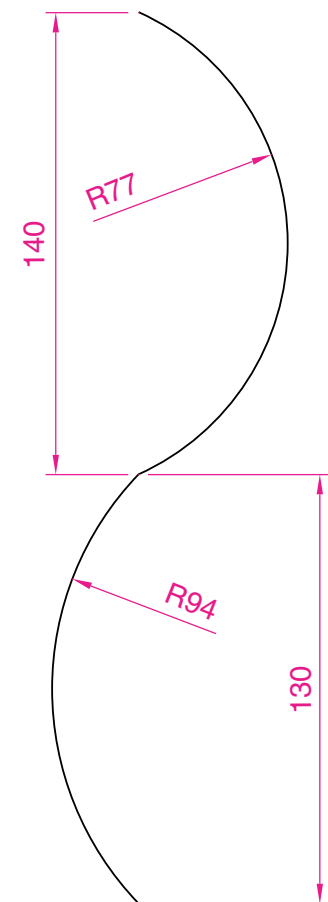

Fig. 13.33 Example **Sweep** – the pline path
2. Change to the **3D Views/Front** view, **Zoom** to **1** and construct a pline as shown in Fig. 13.33 as a path central to the ellipse.